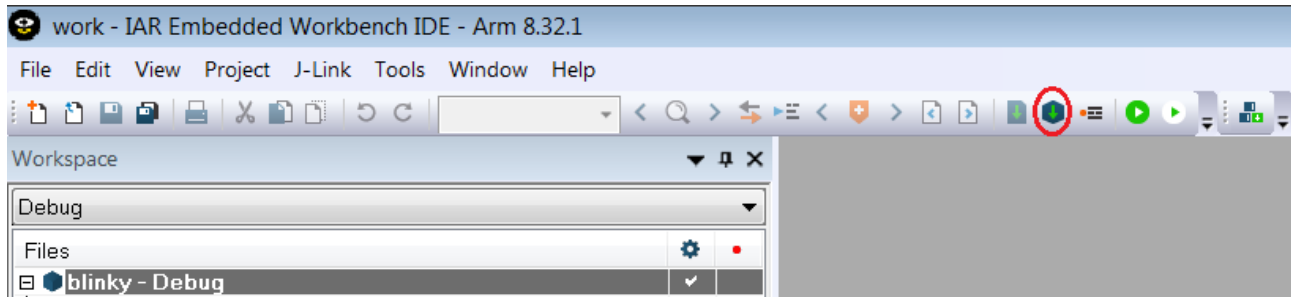

Figure 34. Starting to Build a Project in the IAR Embedded Workbench
1. Right click on the folder for blinky and choose **Rebuild All**. Alternatively, you can use the icon shown in the figure "Starting to Build a Project in the IAR Embedded Workbench" (Figure 34).